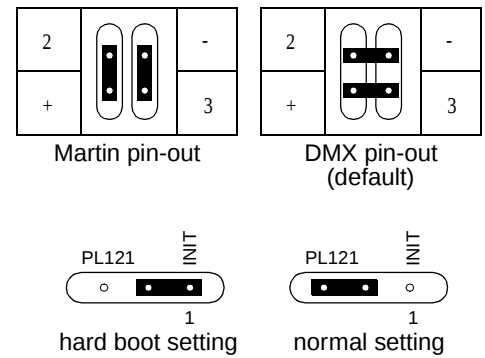

Figure 2-5
1. Position the jumpers for the desired XLR pin-out on PL 233/234 as shown in Figure 2-5.
2. Position the jumper on PL 121 for the desired boot setting as shown in Figure 2-5. The hard boot setting is only used to upload software when the fixture must be set to boot mode and the control panel does not function. After the upload, move the jumper back to the normal setting.